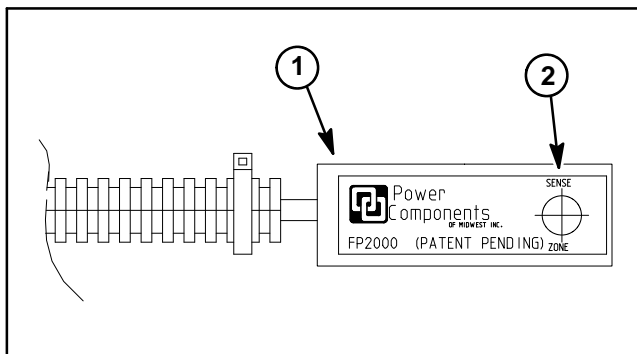

Figure 34
**NOTE:** When installing the parking brake switch to the brake pedal, place switch plate tab into switch mounting hole that is closest to target end of switch (Fig. 34).